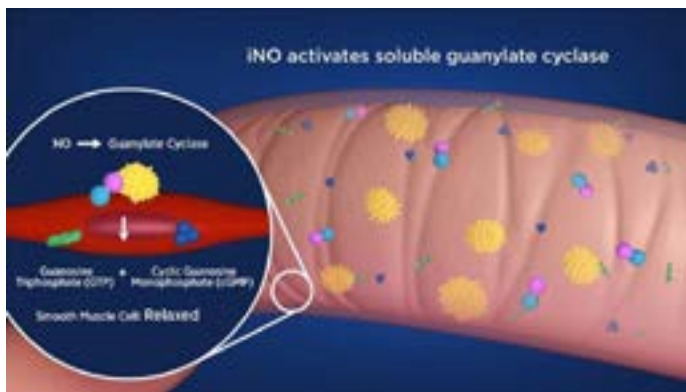

Figure 1. Illustration of how nitric oxide causes pulmonary vasodilation in the smooth muscle cell, with consent.²
Described as a biological messenger, nitric oxide (NO) has known endogenous properties that relax vascular tissue and inhibits platelet aggregation and platelet adhesion. Cyclic GMP (cGMP) is synthesized from the nucleotide GTP using the enzyme guanylyl cyclase (Figure 1) and serves as the second messenger for nitric oxide.³ Clinically, inhaled nitric oxide (iNO) selectively dilates pulmonary capillaries close to alveoli participating in gas exchange, and decreases intrapulmonary shunting to improve V/Q (ventilation/perfusion) matching.¹ Being rapidly scavenged by hemoglobin in pulmonary capillaries with minimal systemic side effects,⁴ iNO has a historical safety record as a therapy used in neonatal intensive care units to increase oxygenation and decrease the need for Extracorporeal Membrane Oxygenation (ECMO) since the 1990s leading to it being labeled molecule of the year in 1992.⁵ An FDA-cleared nitric oxide delivery system (NODS) is vital in the delivery of this inhaled pulmonary vasodilator to achieve and maintain constant delivery of the prescribed dosage,⁶ as abrupt discontinuation of pulmonary vasodilators or unintended dosage changes may lead to worsening oxygenation or increased pulmonary artery pressures.²